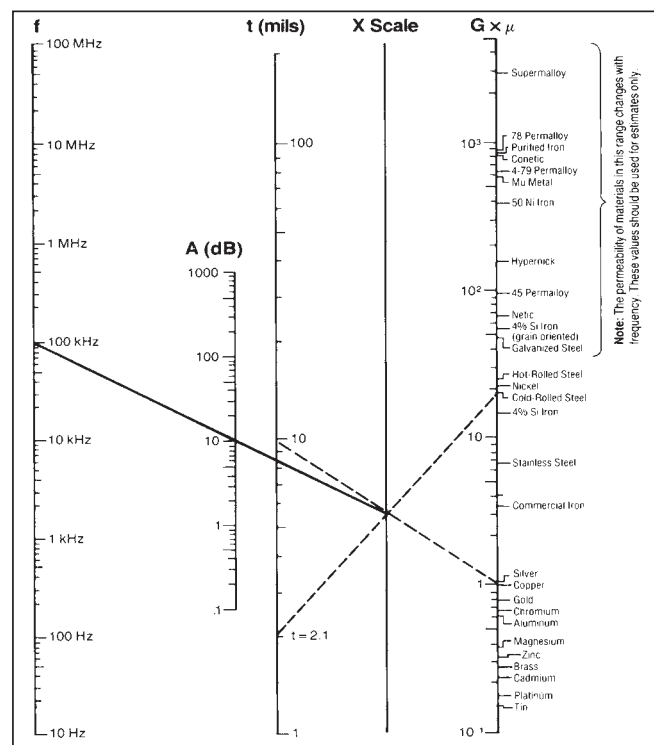

Figure 10-5 Absorption Loss Nomograph1
The nomographs presented in Figures 10-5 through 10-7 will aid the designer in determining absorption and magnetic field reflection losses directly1. These nomographs are based on the equations described in the previous section.
**Absorption Loss – Figure 10-5:**